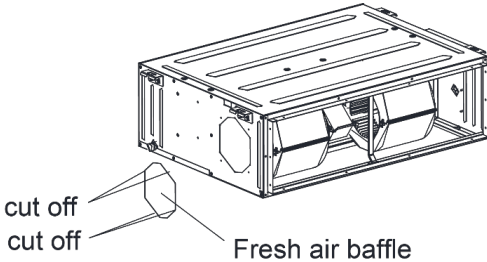

Fig 4.4.8
- (1) When the fresh air pipe is needed to be connected, cut the fresh air baffle as Fig 4.4.8. Plug up the gap of the fresh air baffle by sponge if the fresh air duct is not be used.